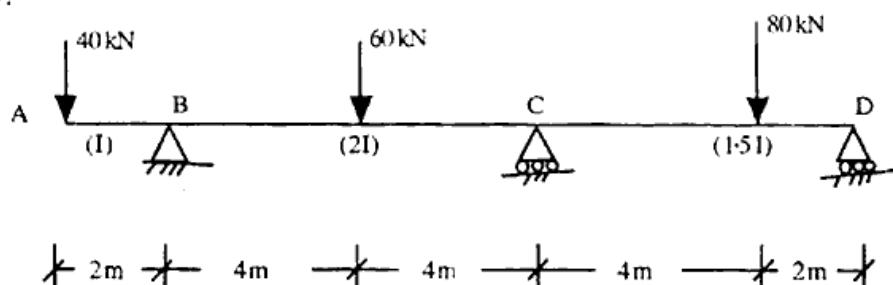

Fig. 10
11. Analyse the continuous beam shown in Fig. 10 by Stiffness method, also draw BMD.